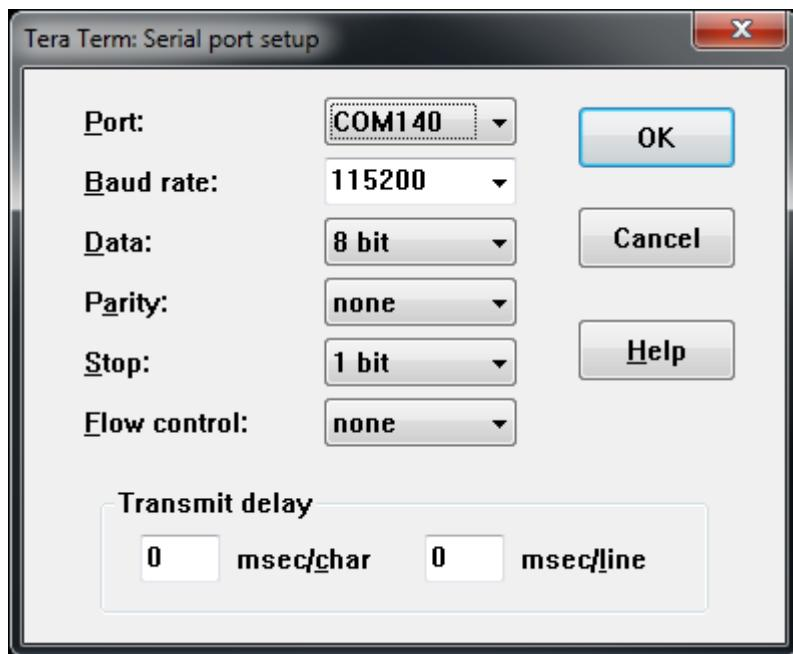

Figure 22. Serial port setup
- 67) Set the **Baud rate**, **Data**, **Parity**, **Stop** and **Flow control** parameters (see Figure 22). Leave the **Transmit delay** fields with default values (0), and click **OK**.